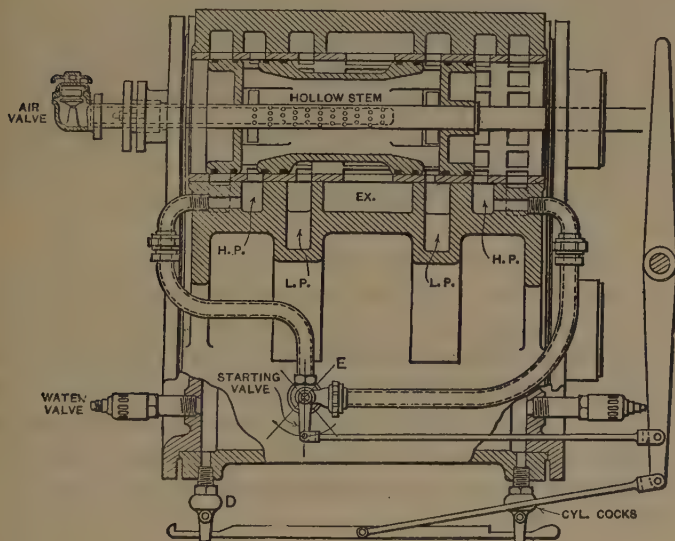

Fig. 382. Showing Main Valves and Parts.
A. Sometimes by air valves therein; being wing valves held shut under the steam pressure when running, but free to open inwards when drifting. Fig. 382 shows a cross section through main valve and ports, together with the starting valve (or by-pass valve) piping and controlling levers, and the L. P. water relief valves. In this arrangement the piston-valve rod is hollow and the bore communicates with the valve interior by a number of holes; the outer end passes through a stuffing-box and bears an air check valve. When drifting, the air passes into the L. P. passages through this valve and the hollow stem.